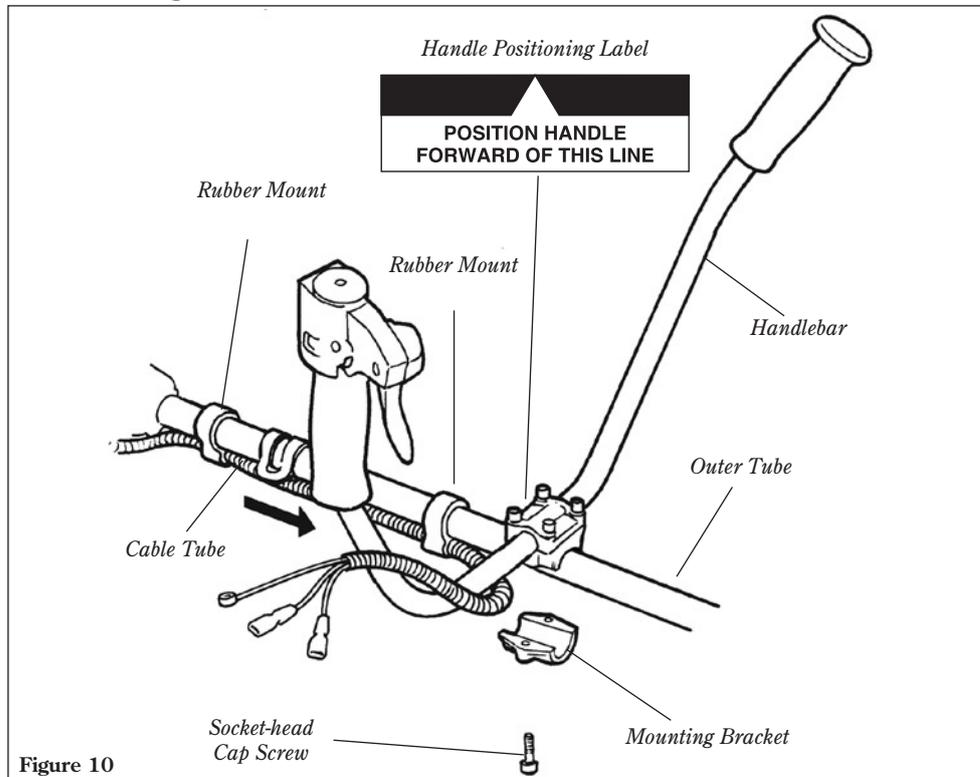

Figure 10
1. Position the handle over the outer tube forward of Handle Positioning Label as shown in Figure 10. The handlegrips must face "up," with the throttle lever to the right-hand side as shown in Figure 10.